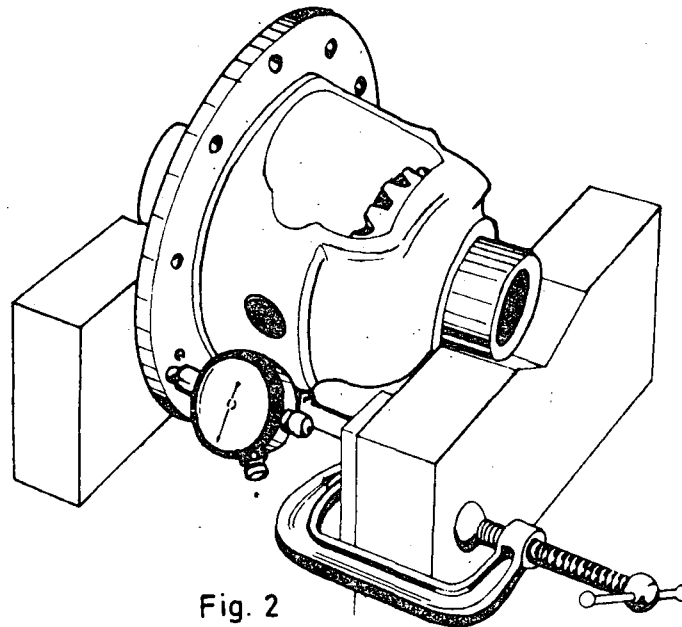

Fig. 2
- d) Check the state of the surface of the seating of the cage with the crown wheel (fig. 2) with a dial indicator.